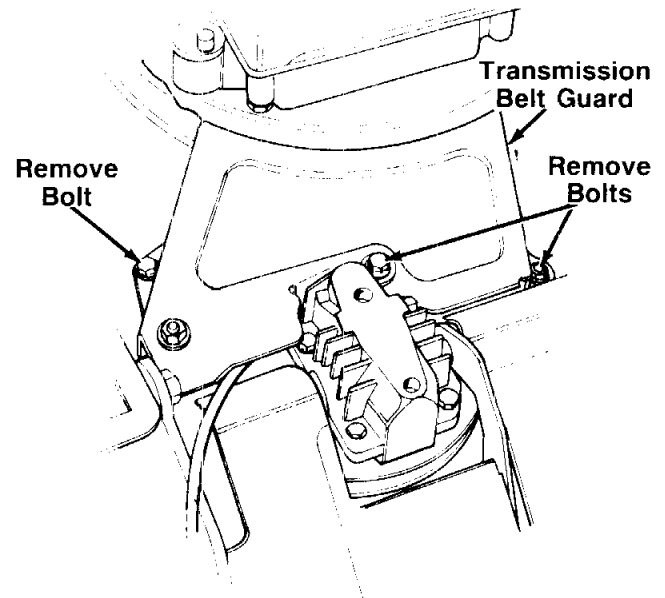

FIGURE 20.
3. Remove the transmission belt guard by removing three bolts. See figure 20.